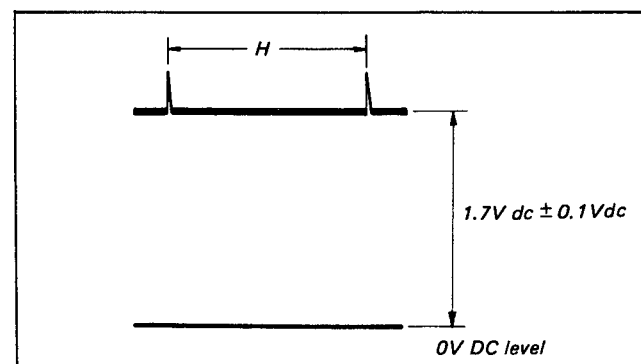

Fig. 5-29. AFC adjustment
- i) Adjust to $1.7\text{ Vdc} \pm 0.1\text{ Vdc}$ with RV006. (See Fig. 5-29.)